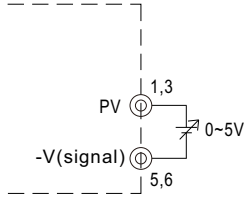

Figure 3-1 Connection of external DC voltage source
- (1) Connect output of the external DC source to PV (PIN1 or PIN3) and -V(signal) (PIN5 or PIN6) on CN55, shown in Figure 3-1.